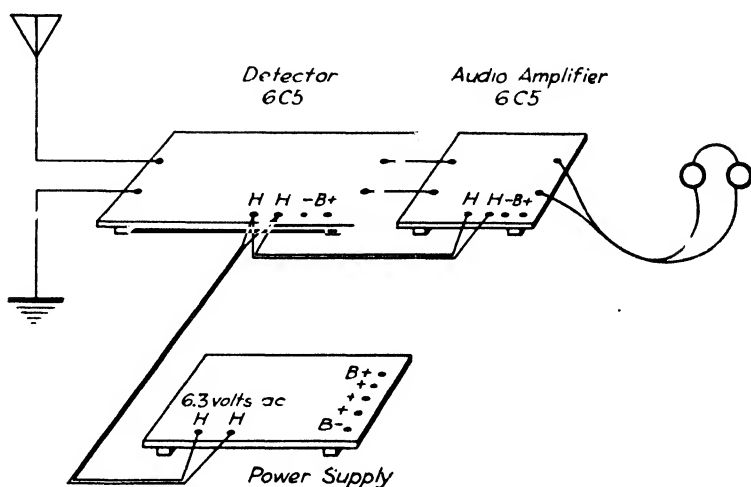

FIG. 306. Connect wires from the 6.3-volt terminals on the power supply to the heater terminals on the detector and audio-amplifier set boards.
Step 1. Connect the detector and amplifier board together. Attach the antenna and ground wires to the detector board (see Fig. 306). Attach earphones to the amplifier.